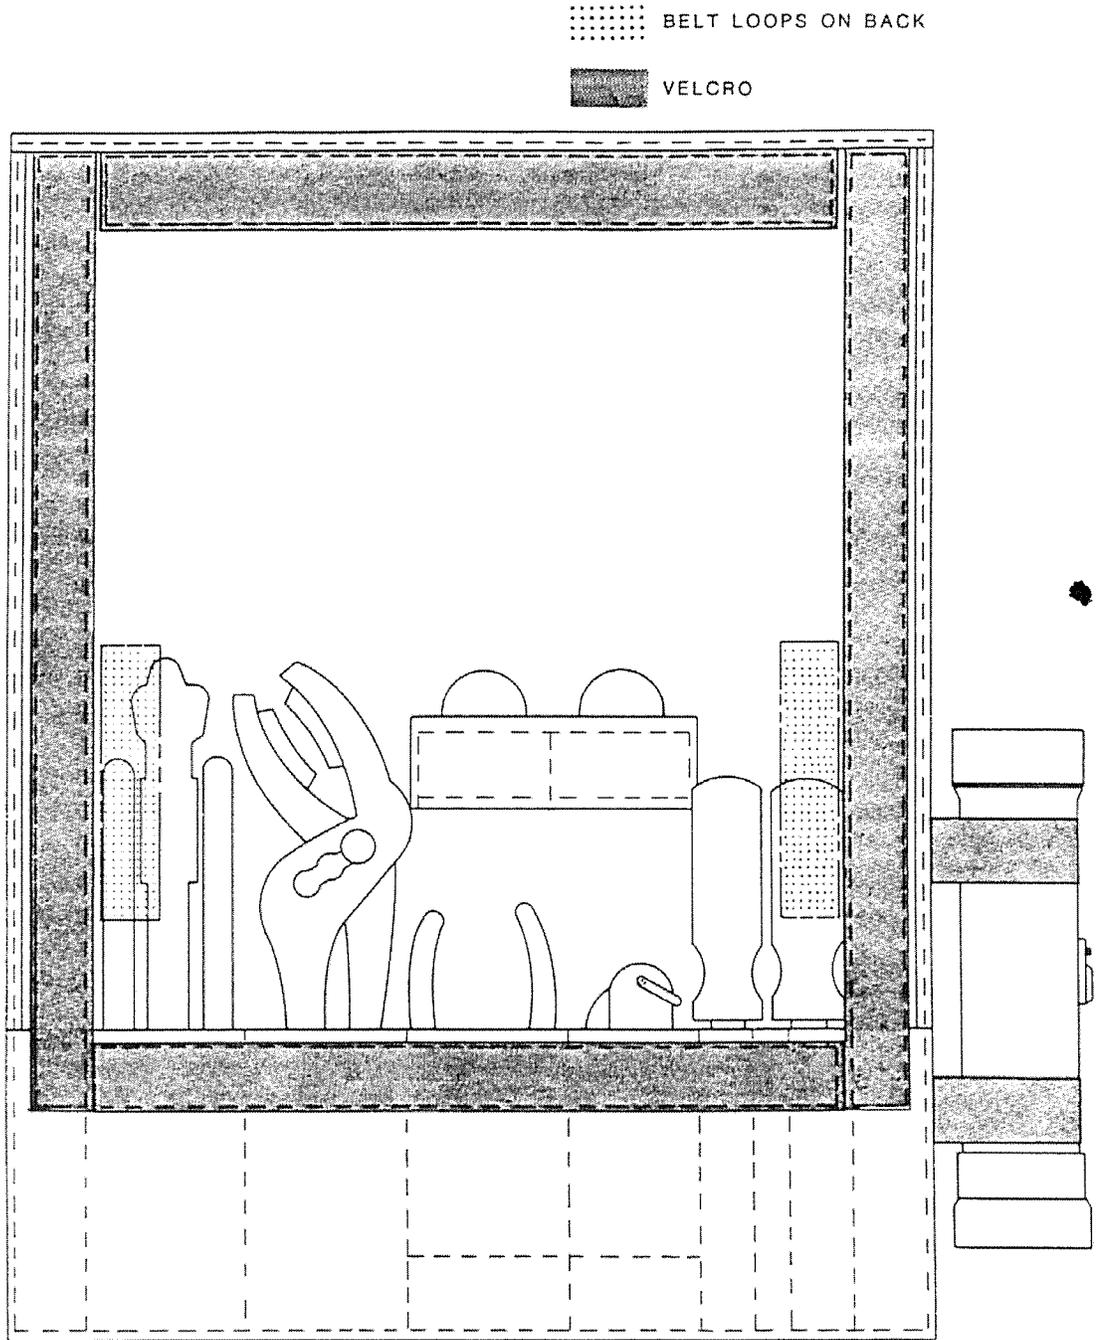
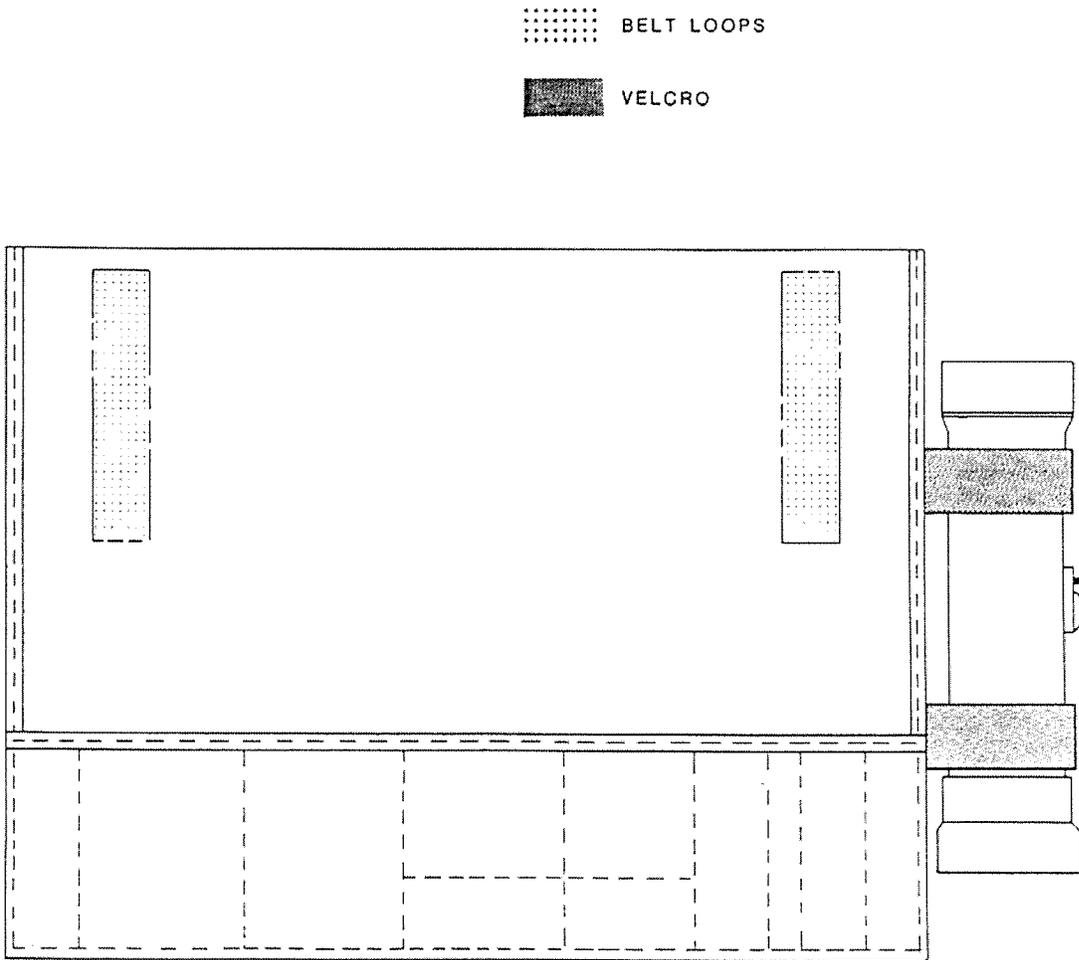
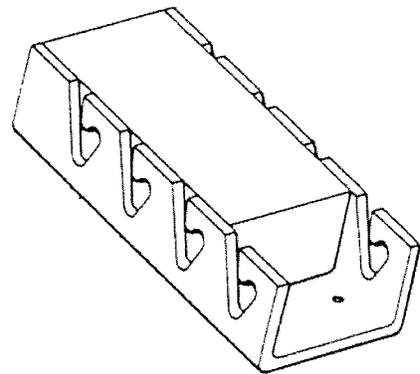

Figure 4-1. Tool Pouch Layout (Typical)
Figure 4-2. Tool Pouch Closed (Typical)
Figure 5-1. Tool Retainer
- a. The Pouch is locally fabricated from canvas, nylon, or herculite material and may be equipped with a belt loop or strap. The belt pouch will usually carry ten to twelve tools. A flap secured with Velcro tape keeps tools from falling out. Figure 4-1 shows a typical layout and Figure 4-2 shows the pouch in the closed position.
The mounting brackets, fittings and clips required to assemble tool containers are described and illustrated in this section. The container layouts in Section 6, and subsequent sections, show where these fittings and brackets are used. Tool inventories are also keyed to show their mounting hardware illustrated by Figures 5-1 through 5-21, or pouch Figure 4-1.
Drawings of the various tool holders, brackets and clips are shown in Figures 5-1 through 5-21. The spring clips, socket clips, and mounting strips are obtained through normal supply channels. The mounting strip can be cut to the desired length and drilled for mounting with screws. Other holders and brackets are locally fabricated from one-eighth inch sheet unplasticized polyvinylchloride (UPVC) material which is available from plastic supply houses and must be open purchased. These items are easily made by hand, using heat to bend or by cutting to the shape desired. Heating the UPVC is accomplished by using a heat gun (NSN 4940-00-357-1369) or by heating over an electric heater (NSN 4520-00-865-5939) along the area to be bent. When a flexible state is reached, place the plastic over the edge of a bench or table and, using a piece of 90-degree angle iron, press down and hold until the plastic cools. Applying pressure to the angle iron will give a sharper bend. In some cases it may be necessary to use blocks of wood and clamps to get the desired shape. UPVC material can be cut by deep scribing with a plastic knife or scribe and breaking, or may be sawed with a hacksaw. A tool found to be useful in cutting holes and grinding is a rotary electric tool (NSN 5130-01-014-6856), which comes as a kit.
- a. A tool retainer (Figure 5-1) is a stock item available in two sizes, 1/4" and 3/8" openings. It is available in 18-inch lengths but may be cut to any desired length. The primary use of this item is to hold wrenches, screwdrivers, extensions, etc.